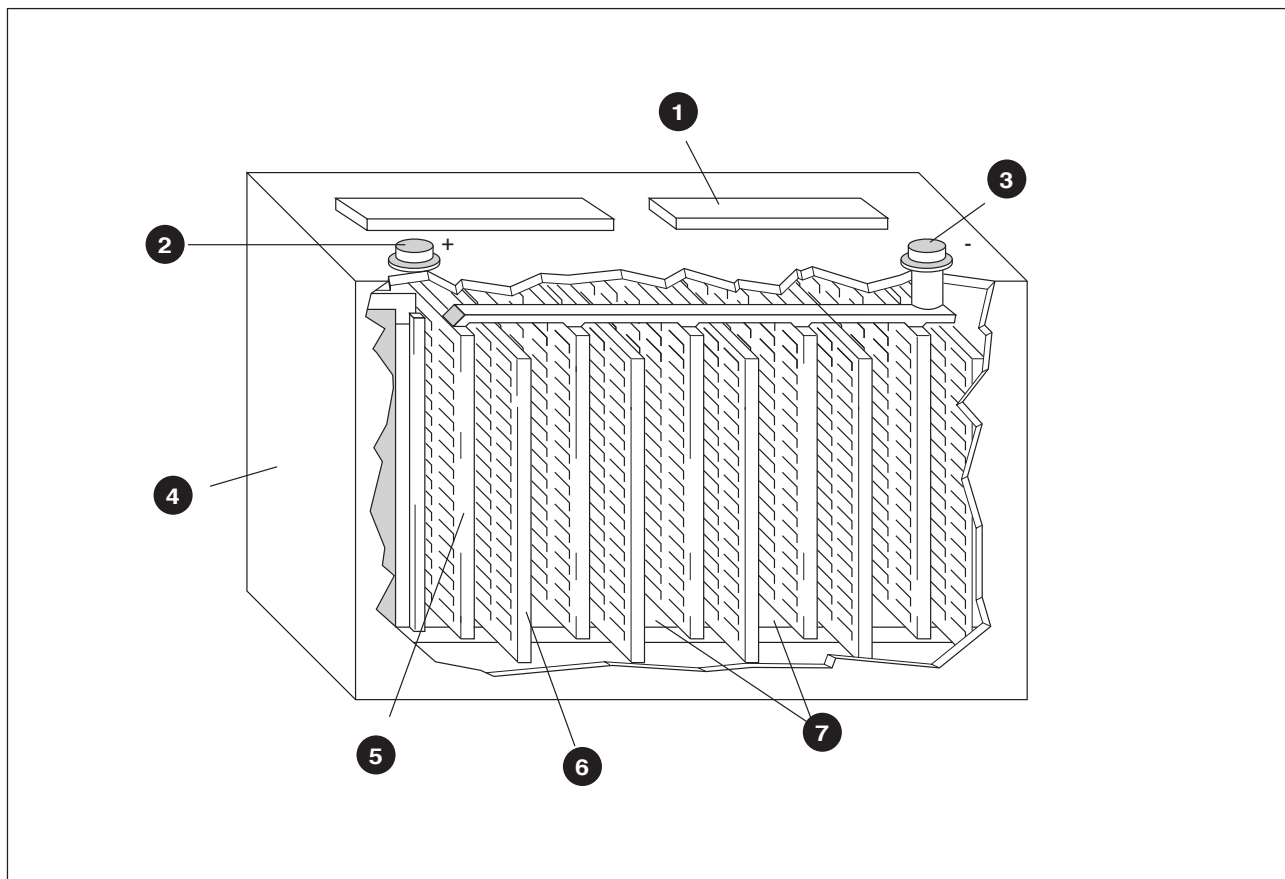

Figure 31.1 After Wilbraham (1993)
1. Look at Figure 31.1 and find out the names for the parts labelled 1 – 7.